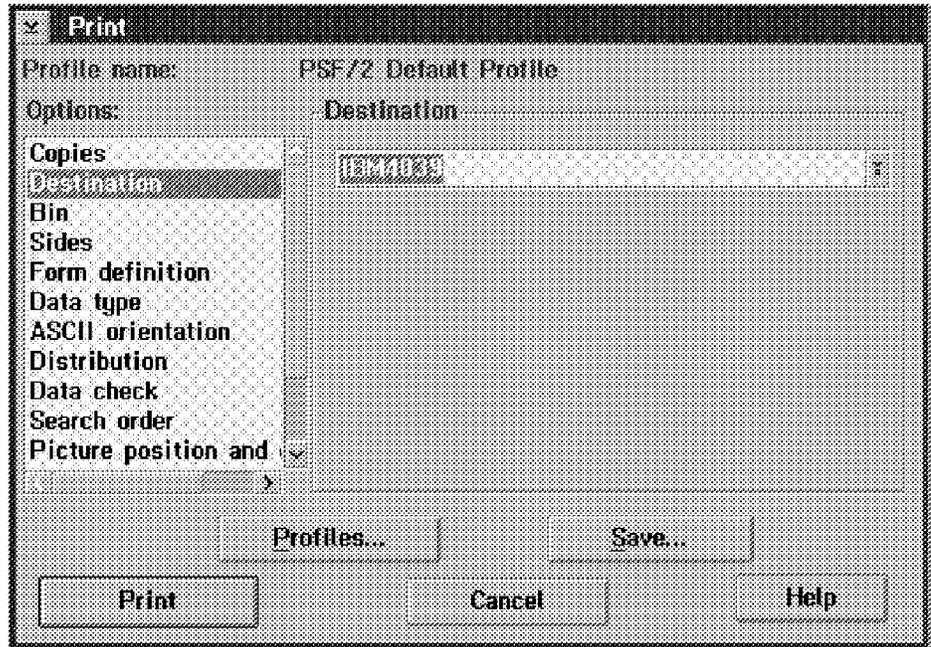

Figure 191. Print Window
4. From the Actions pull-down, select **Print**; then select either **Use current print options** or **Change print options**. For this example, let's assume you chose to change the print options. The Print window shown in Figure 191 on page 253 will open.